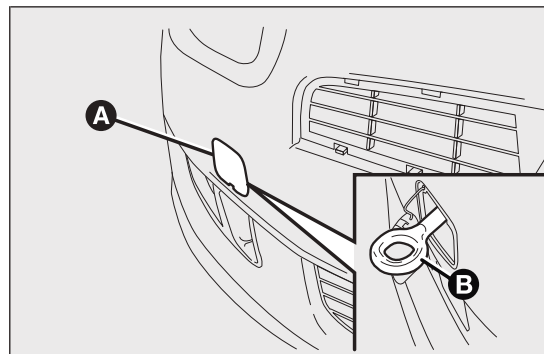
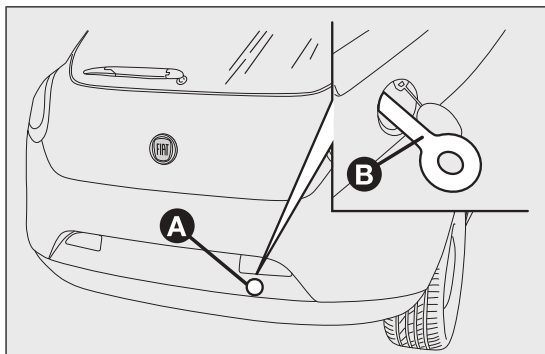

fig. 174
fig. 175
- release the cap by operating on tab A fig. 174–fig. 175;